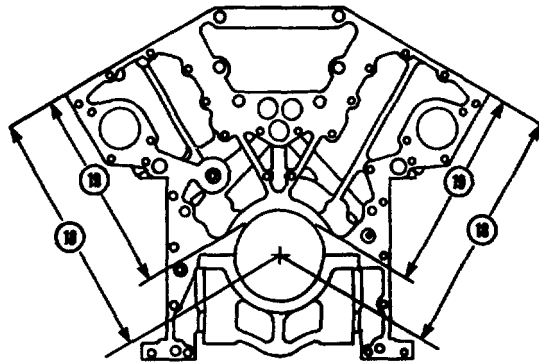

FIGURE 4-86. Block Height Measurements.
- If checking ring or centering ring is not available, block height can be measured from top of main bearing saddle (19, FIG. 4-86). If block height is less than 15.570 inch (395.48 mm), a 0.020 inch (0.51 mm) oversize head gasket must be installed.
- (7) Measure height of cylinder block (18, FIG. 4-86). Verify height is within specifications in Table 4-8 . Verify height does not vary more than 0.003 inch (0.08 mm) from end-to-end of the block and more than 0.005 inch (0.13 mm) between the banks.